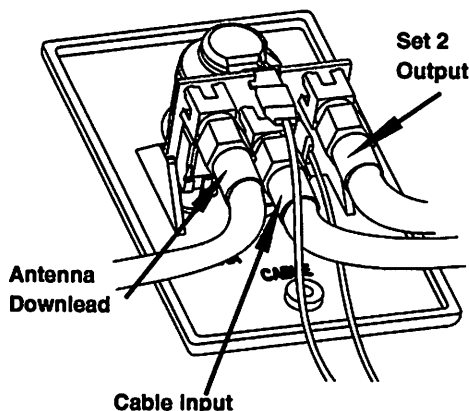

FIGURE 9
STEP 13: Install connectors on download, set 2 and cable input cables as shown on page 6. Attach download cable to jack on wall plate/power supply marked antenna as shown in Figure 9. Attach cable going to set 2 outlet to jack on power supply marked SET 2. Attach cable coming from cable input to jack on power supply marked CABLE.